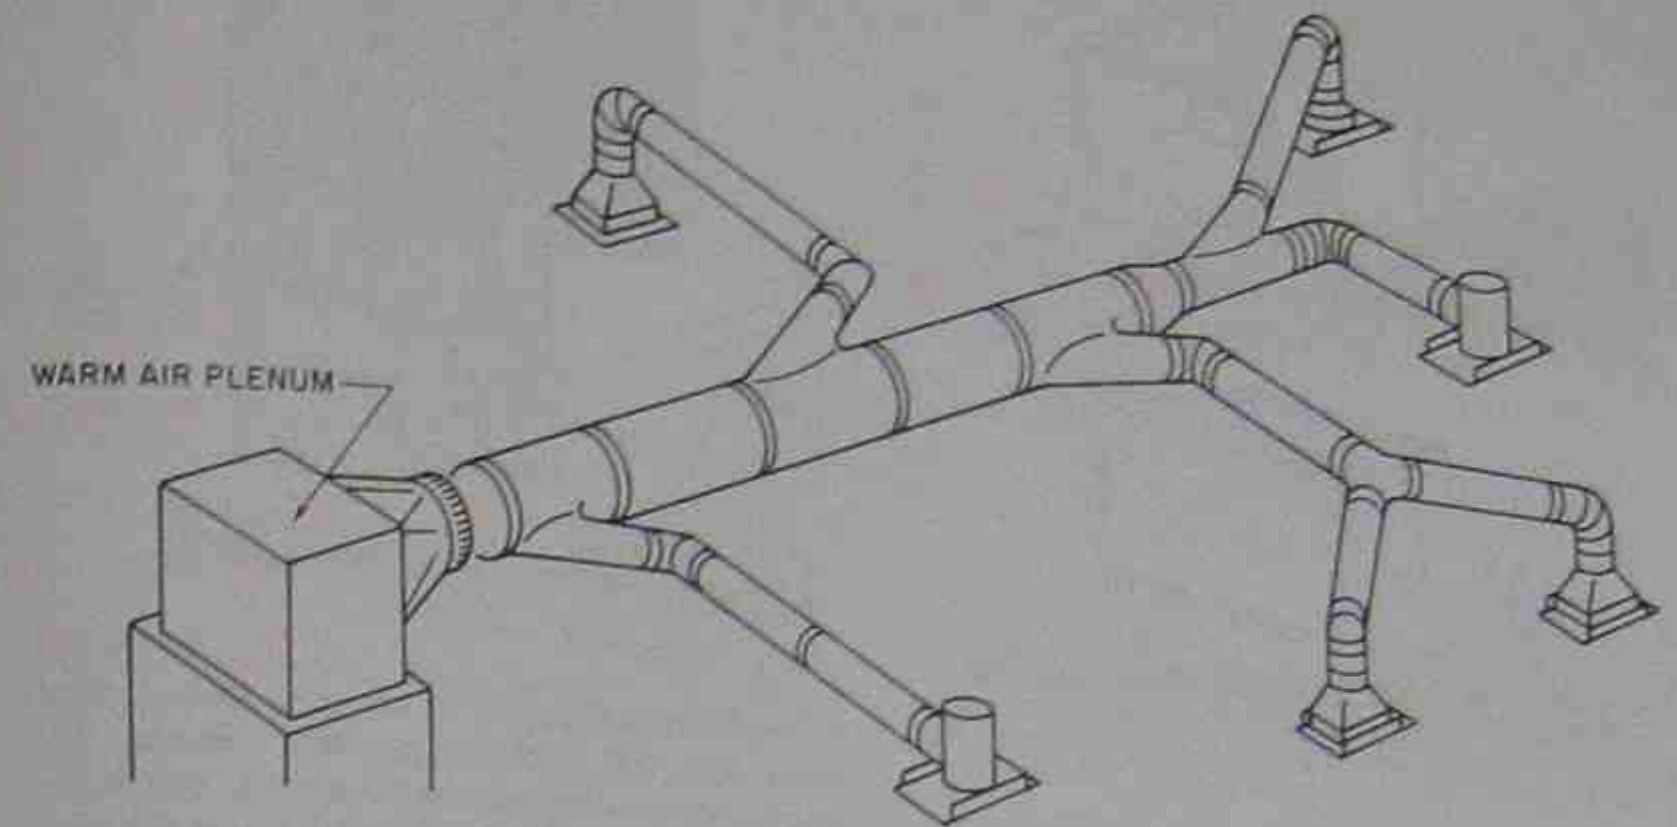

Figure 39-41. Metal and round duct.
8. All round metal duct with round metal branch ducts, Figure 39-41.